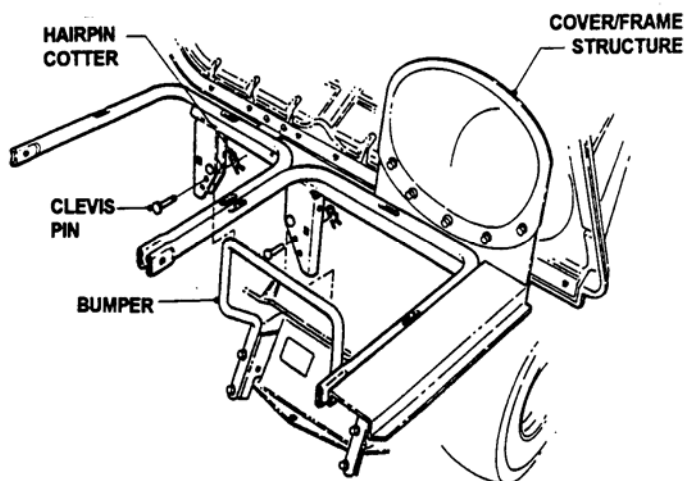

FIGURE 6
STEP 6: Cover/Frame Installation. Lower cover/frame assembly onto bumper and secure with clevis pins and hair pins. See Figure 6.